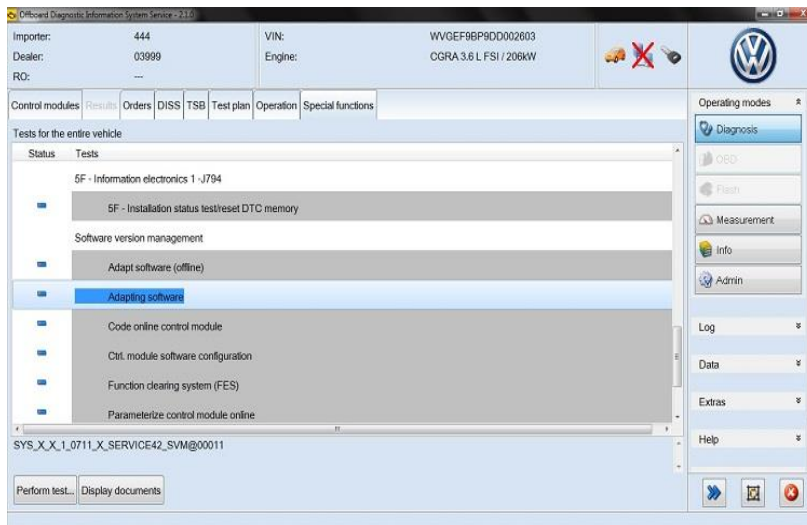

Figure 2
7. Enter the SVM test plan by selecting the following inside GFF: Special Functions >> Software Version Management >> Adapting Software (Figure 2).